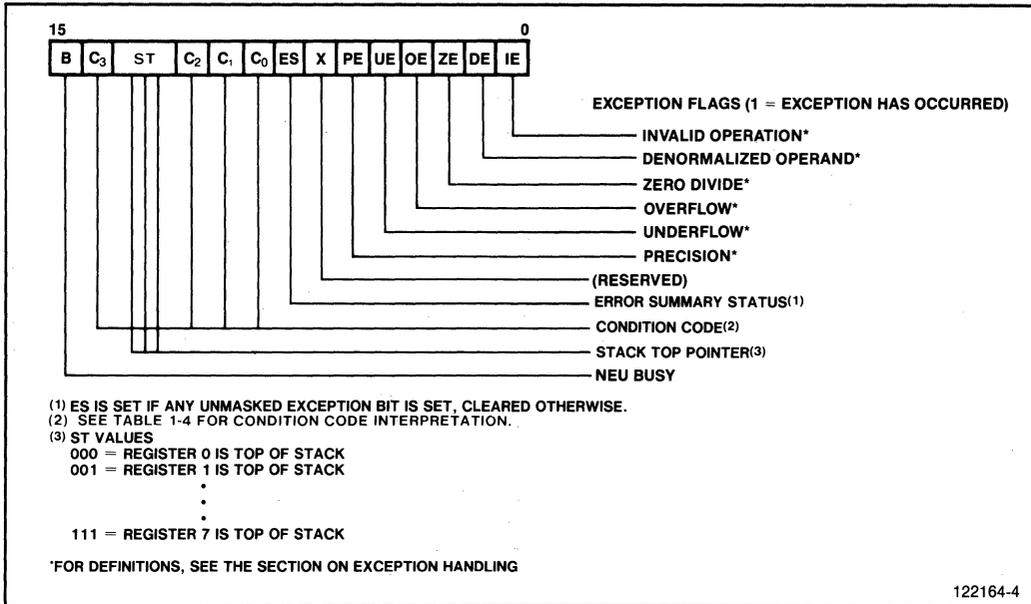

Figure 1-4. 80287 Status Word
The 16-bit status word shown in figure 1-4 reflects the overall state of the 80287. This status word may be stored into memory using the FSTSW/FNSTSW, FSTENV/FNSTENV, and FSAVE/FNSAVE instructions, and can be transferred into the 80286 AX register with the FSTSW AX/FNSTSW AX instructions, allowing the NPX status to be inspected by the CPU.
Figure 1-4 shows the six error flags in bits 0-5 of the status word. Bit 7 is the error summary status (ES) bit. ES is set if any unmasked exception bits are set, and is cleared otherwise. If this bit is set, the **ERROR** signal is asserted. Bits 0-5 indicate whether the NPX has detected one of six possible exception conditions since these status bits were last cleared or reset.